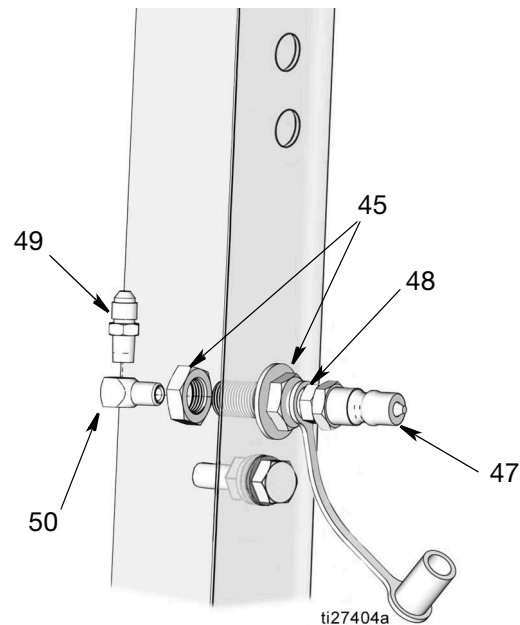

FIG. 34
6. Apply thread sealant to threads of connector (49). Install bulkhead fitting (45) to the connector (49). Remove mounting nut.
7. Install bulkhead fitting (45) through bulkhead hole drilled in Step 1. Reinstall mounting nut over end of bulkhead fitting to secure bulkhead fitting to support rail (FIG. 34).
NOTE: When installing the bulkhead fitting (45) make sure connector (49) is oriented upward as shown in FIG. 34